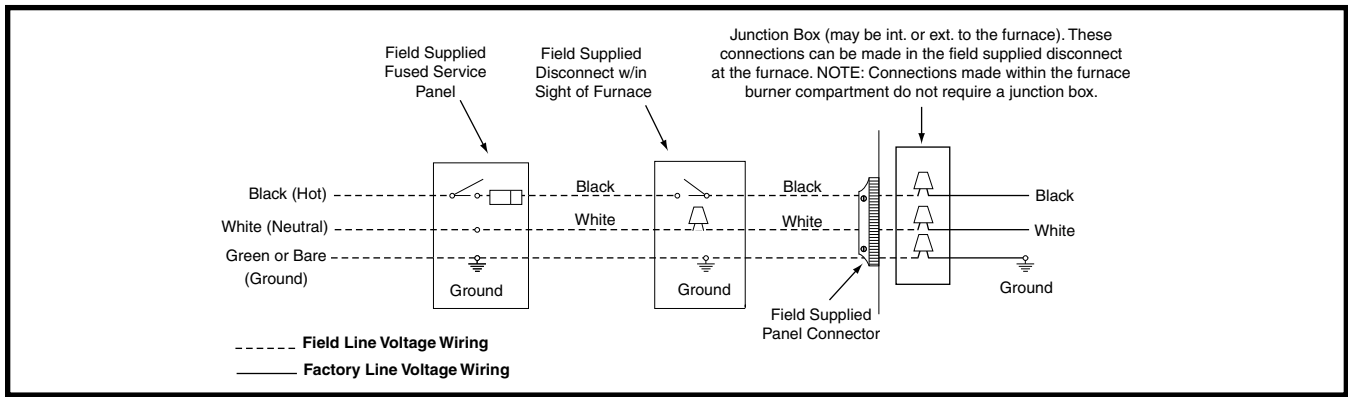
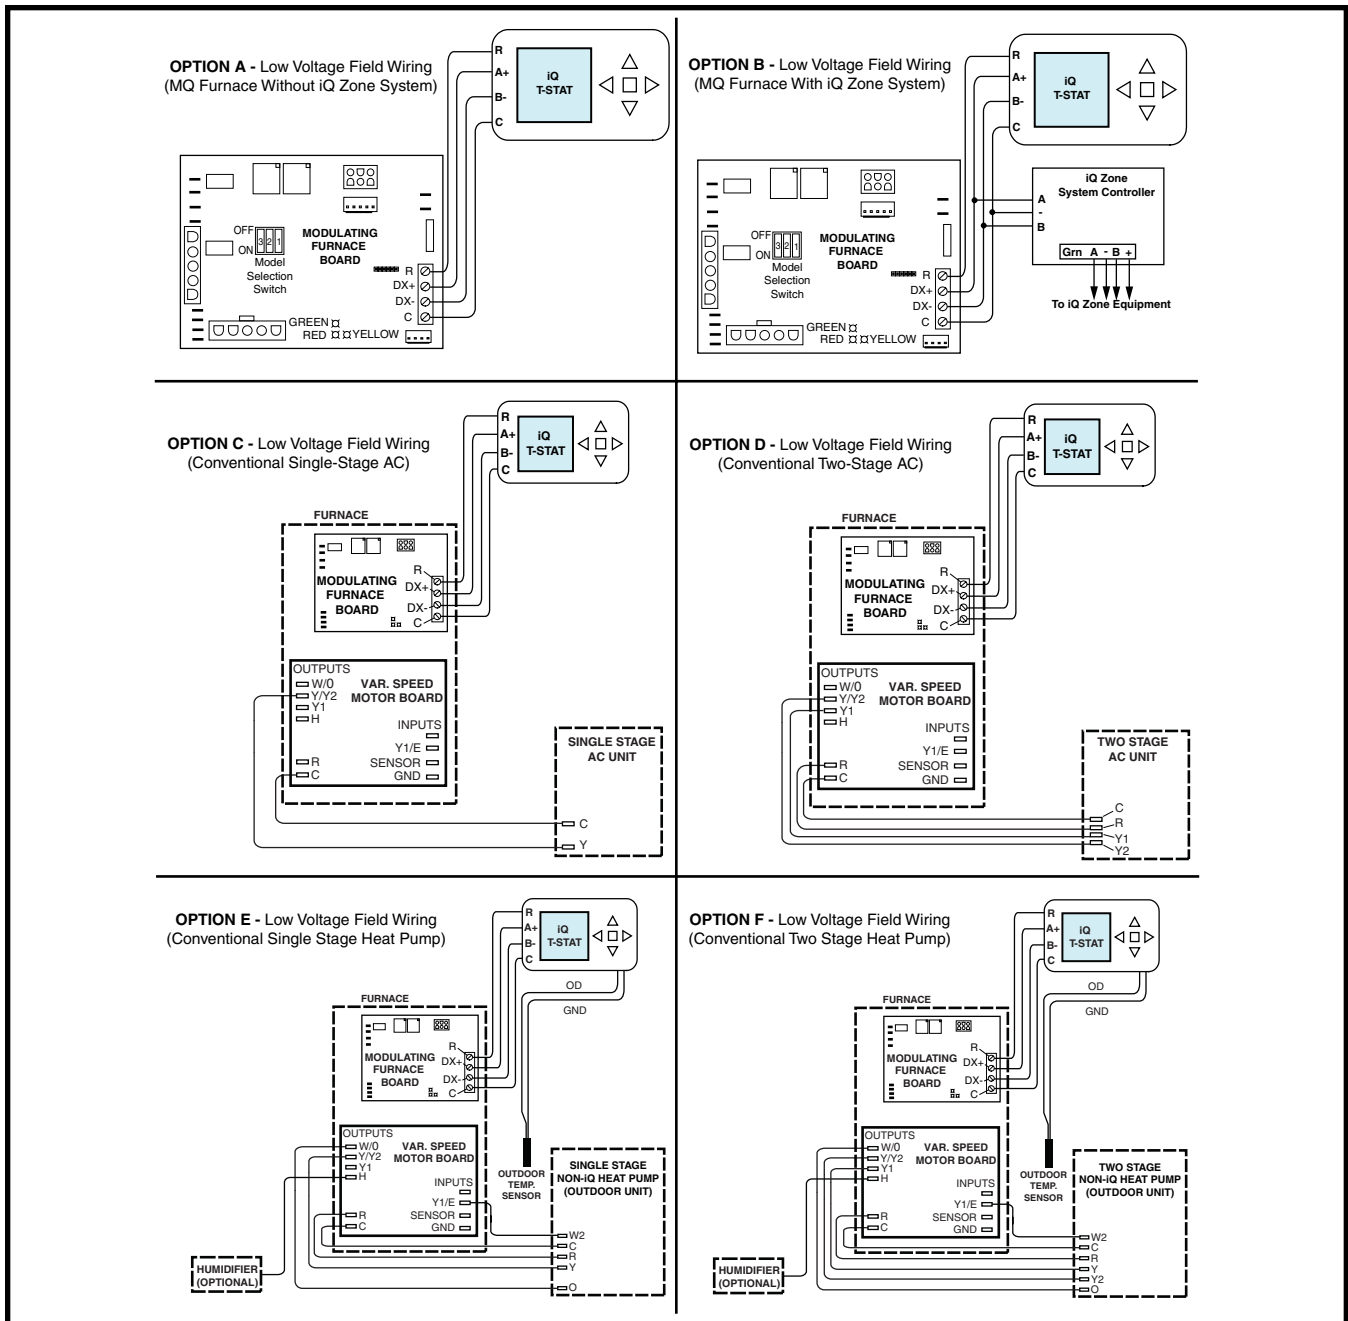

Figure 19. Line Voltage Field Wiring
Figure 20. iQ Wiring Configurations
- **An electrical disconnect must be installed readily accessible from and located within sight of the furnace. See Figure 19 or the wiring diagram label inside of the control door. Any other wiring methods must be acceptable to authority having jurisdiction.**
- **Proper line voltage polarity must be maintained in order for the control system to operate correctly. Verify the incoming neutral line is connected to the white wire and the incoming “Hot” line is connected to the black wire. The furnace will not operate unless the polarity and ground are properly connected as shown in Figure 19.**
Field wiring instructions for all iQ system equipment can be found in the iQ Drive System Field Wiring Instructions (P/N 709031). The iQ Drive® thermostat is connected to the furnace by running 4 wires from the thermostat to terminal P5 on the furnace control board. If this MQ furnace is part of an iQ Zone system, refer to Figure 20, \(page 24\). **Field supplied wiring is recommended to be a 4 wire shielded cable and must be a minimum of 18 gauge.**
If installing a single or two-stage conventional heat pump, it is recommended that an outdoor temperature sensor (920938) be installed on the system. The sensor connects to the iQ thermostat as shown in Options E & F in Figure 20, \(page 24\) and measures the outdoor temperature at the unit. The outdoor temperature is displayed on the main screen of the iQ thermostat and the system switches between furnace and heat pump based on the outdoor temperature.
- Verify the thermostat wires (**R**, **DX+**, **DX-**, & **C**) are securely connected to the correct leads on the terminal strip of the circuit board. See Figure 20, (page 24).
The operating sequences for the heating, cooling, and fan modes are described below. Refer to the field electrical diagrams and furnace wiring diagrams. See Figure 19, (page 24), Figure 20, (page 24) and Figure 25, (page 32).